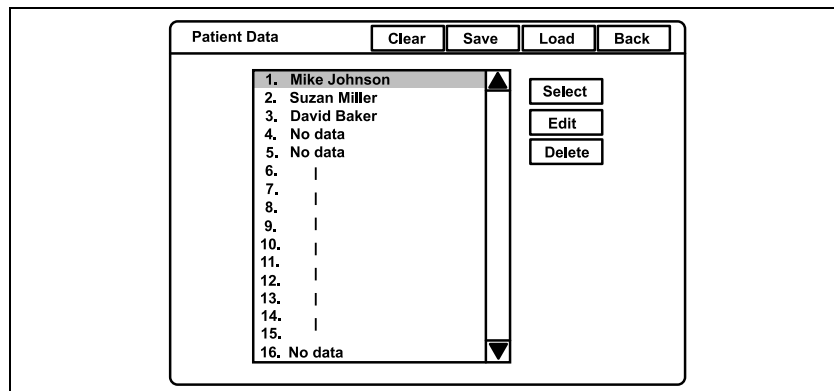

Figure 5.97
2. Press the "Shift" and "F3" keys together to display "Patient Data" menu (see Figure 5.97).